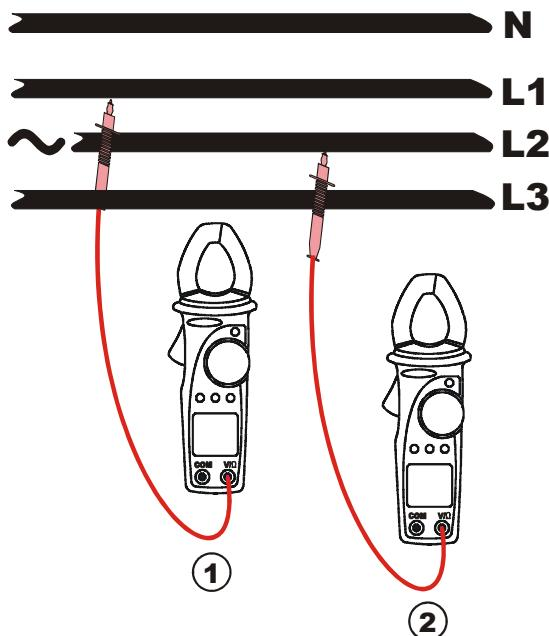
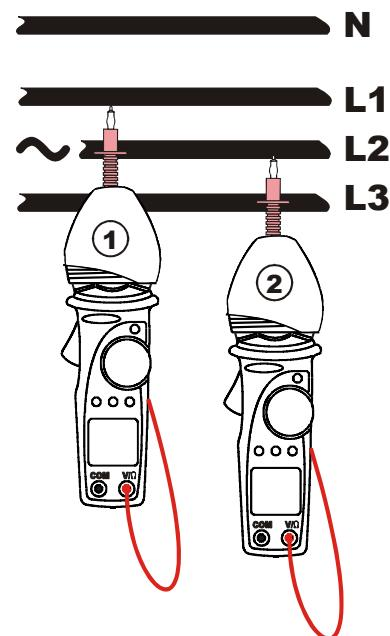

Fig. 12: phase rotation detection
Fig. 13: phase rotation detection with rubber cup
4. Connect the red terminal to the L1 phase conductor (see Fig. 12, 1st measurement). If necessary use the rubber test lead holster & insert the red test lead (see Fig. 13, 1st measurement).
9. Connect the test lead to L2 phase conductor (see Fig. 12, 2nd measurement or Fig. 13, 2nd measurement).